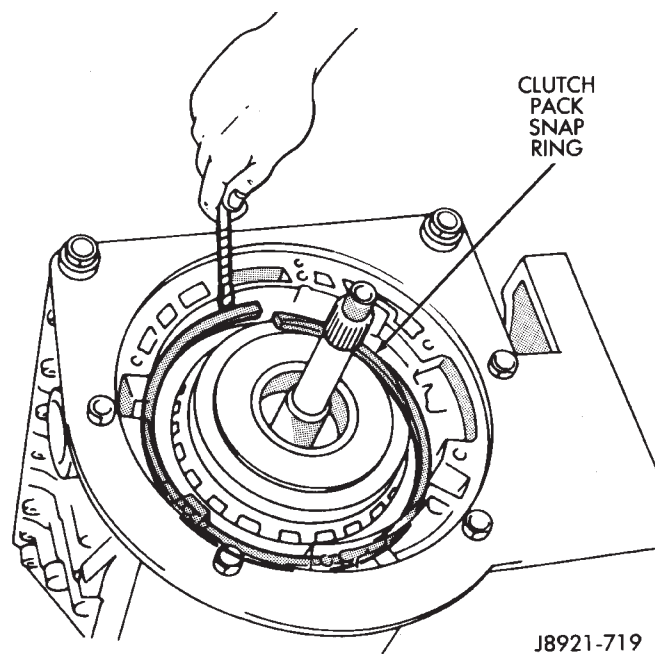

Fig. 52 Installing Clutch Pack Snap Ring
(64) Install clutch pack snap ring (Fig. 52).